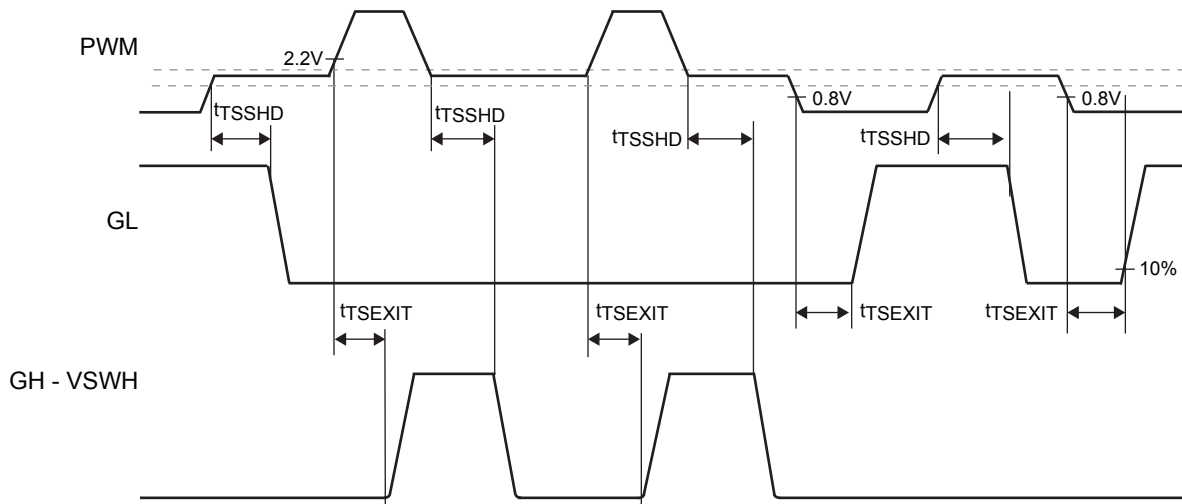

Figure 2. PWM Tri-State Input Logic Timing Diagram
The PWM is also a tri-state compatible input. When the input is high impedance or unconnected both the gate drives will turn off and the MOSFET gates are held actively low. The PWM Threshold Table (below) lists the thresholds for high and low level transitions as well as tri-state operation window. As shown in Figure 2, there is a hold off delay between the corresponding PWM tri-state signal and the output gate drive being pulled low. This delay is typically 150ns and intended to prevent spurious triggering caused by tri-state mode entrance.
**Note:** See Figure 2 for propagation delays and tri state window.